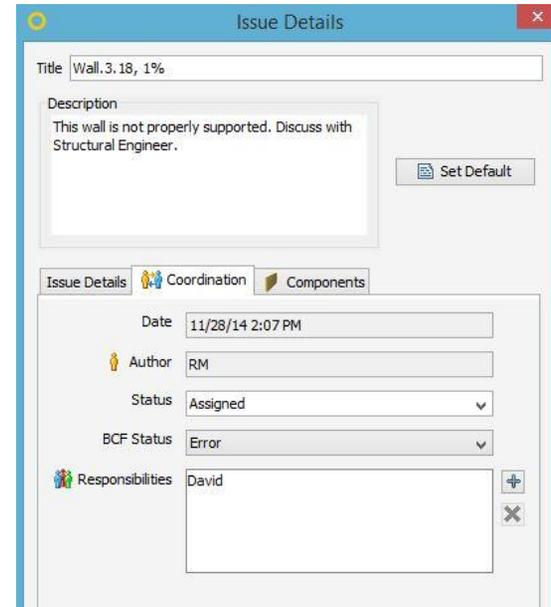

Figure 58 Coordination tab in Issue Details window
(15) You will also assign the issue to a specialist to solve the problem, click on the **Coordination** tab, select "Assigned" in the **Status** bar and assign to, for example, "David" in **Responsibilities** bar (see Figure 58).
(16) You will notice that the **Results Tree** now includes marks for existing comments and has a red cross as this issue is now "*Rejected*".